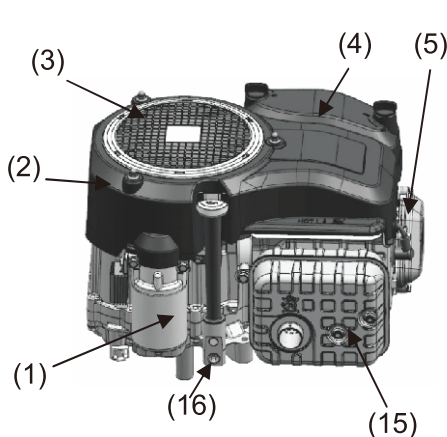

Figure 1
1. Structural illustration (See Fig. 1, 2 and 3).